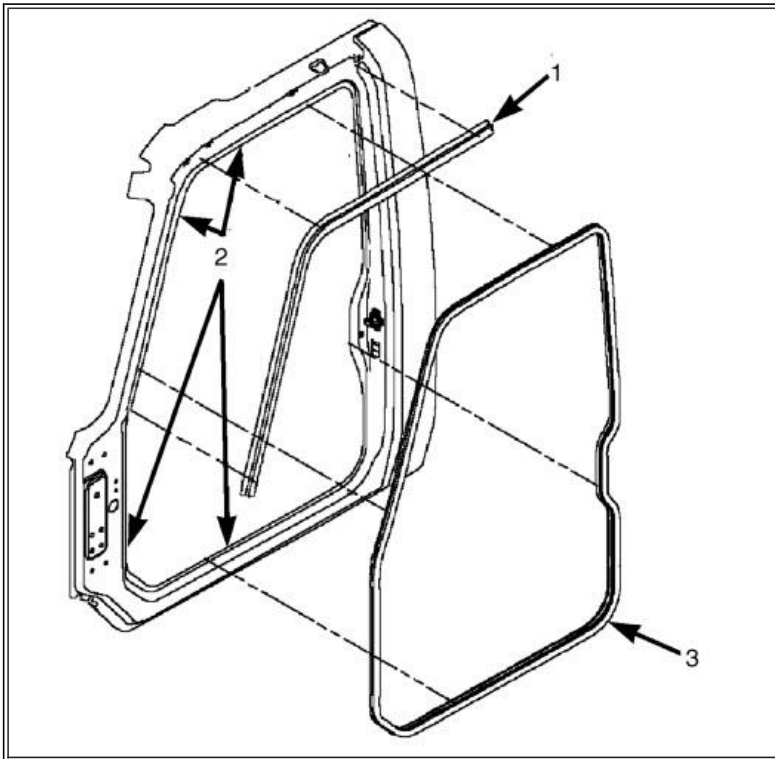
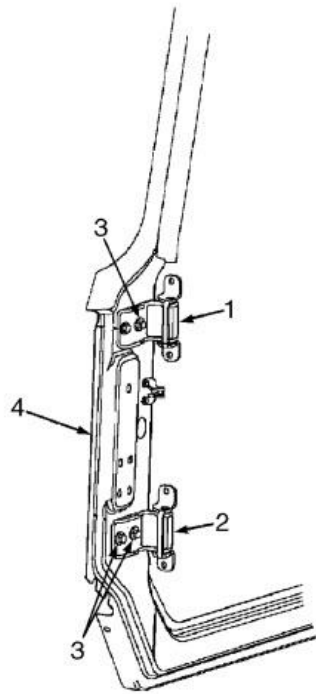

Figure 1: Door Seals
Figure 2: Door Hinges
1. Inspect the primary (Figure 1, Item 3) and secondary (Figure 1, Item 1) door seals. Ensure they are seated down completely. If there is any visible damage or waves, adjust or replace as necessary.
3. After replacing or adjusting any of the parts in steps 1 or 2, remove the primary door seal (Figure 1, Item 3).
4. While closing the door, place a dollar bill or similar size/shape piece of paper between the secondary door seal (Figure 1, Item 1) and the door (Not Shown) at the base of the A-pillar where the secondary door seal starts/terminates just above the upper door hinge (Figure 2, Item 1).
6. If the dollar bill does not slide freely, there is proper contact between the door and seal and no shimming is required. Reinstall the primary door seal (Figure 1, Item 3), ensuring that it is completely seated all the way around the door perimeter. The job is complete.
8. Loosen the lower A-pillar door hinge bolts (Figure 2, Item 3).
9. Insert the thickest shim (1.5mm) between the cab hinge pillar (Figure 2, Item 4) and the lower door hinge (Figure 2, Item 2). Position the shim with the long "ear" forward so the shim is completely covered by the hinge.
10. Retighten the lower hinge bolts (Figure 2, Item 3) to 19.6 - 24.0 N-m (14.5 - 17.7 Lbf-ft).